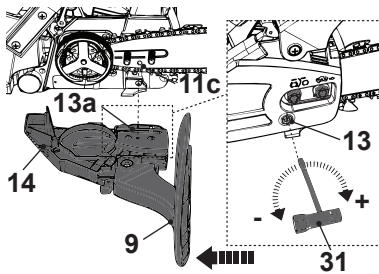

Fig. 6
8. Fit the cover (14). If necessary, turn the tension screw (13) clockwise or anticlockwise with the multi-tool (31) to adjust the tension pin (13a) until it reaches a position where it can be inserted into the tension hole (11c) (Fig. 6).